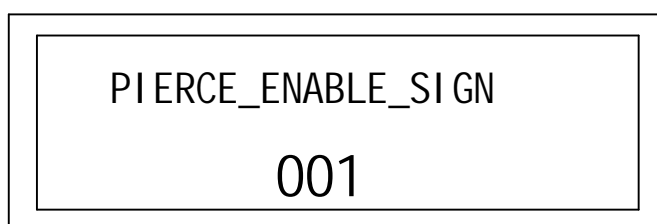

Fig. 22: PIERCE_ENABLE_SIGN setup
17). PIERCE_ENABLE_SIGN: PIERCE_ENABLE_SIGN. Fig.22.